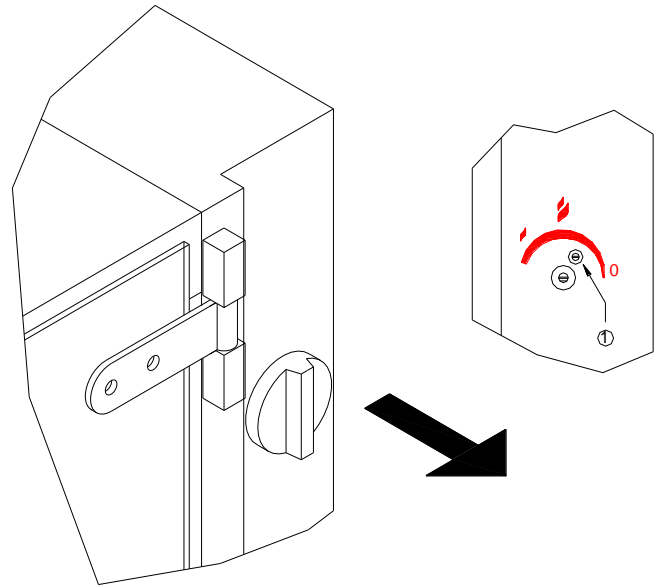

Fig.8
- Put a screwdriver through the hole in the control panel and loosen the screw (1) Fig. 8 in a clockwise direction to reduce the minimum or anticlockwise to increase the minimum.